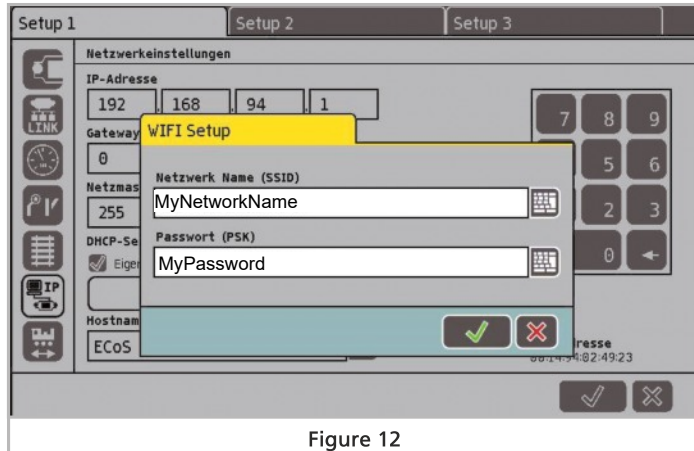

Figure 12
- When the Wi-Fi setup dialog box appears, see Figure 12, enter the name you have chosen for your mini-network, and your chosen password.